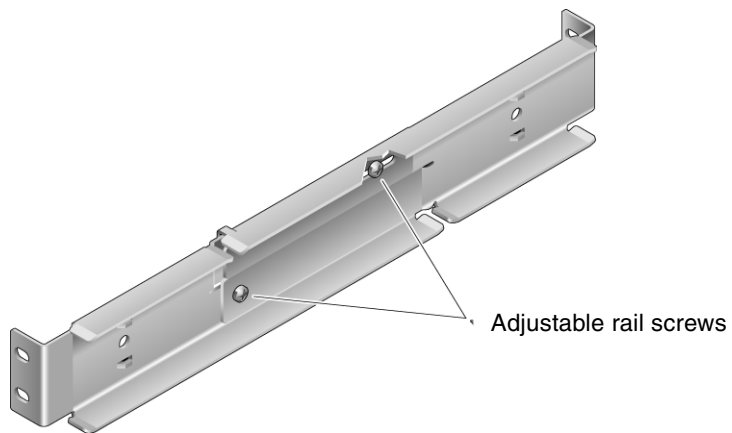

FIGURE 3-15 Adjustable Rail Screws
2. Loosen the two screws at the middle of each adjustable rail so that you can extend the adjustable rail (FIGURE 3-15).
5. Tighten the two screws at the middle of each adjustable rail (FIGURE 3-15).